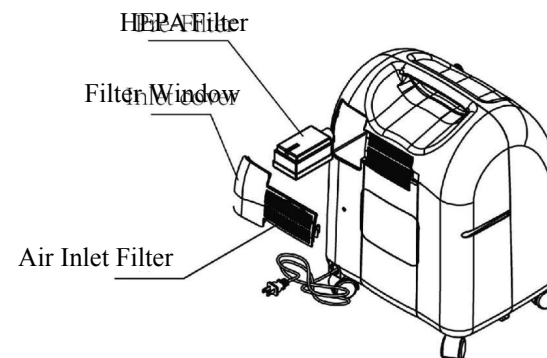

Figure 9
② Replace of high efficiency filter(Called Hepa filter)(Figure 9)